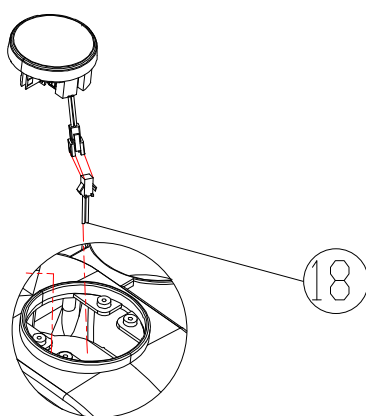

Figure 7.2
7. First, remove the sensing wire from the NO.04 riser group and insert it into the NO.01 main frame group (as shown in Figure 7.1); then, connect the frame connection wire to the NO.14 14.electronic watch (as shown in Figure 7.2); next, install the NO.04 riser group the NO.01 main frame and lock it with the NO.28 28.L-shaped adjustment knob ; finally, put the battery into the electronic meter (as shown in Figure 7.3).